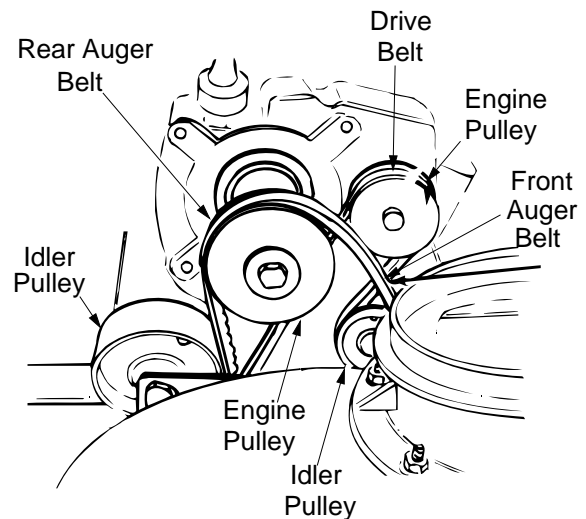

Figure 26
5. Roll the front and rear auger belts off the engine pulley. See Figure 26.
8. Lift the rear auger belt from the auger pulley, and slip belt between the support bracket and the auger pulley. See Figure 26. Repeat this step for the front auger belt.
2. Pull idler pulley up, and lift belt off engine pulley and friction wheel disc. See Figure 26.